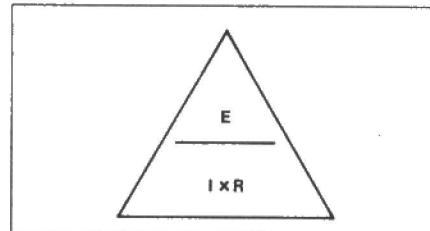

Figure 1. Ohms Law Triangle
How well and how quickly you will be able to do this will depend on your electrical knowledge and experience. So to assist you to acquire this electrical knowledge, let me briefly explain the fundamental principles underlying the units of electricity, and their application to an electrical circuit. The strength of a steady direct current of electricity flowing in a closed circuit is directly proportional to the electromotive force, and inversely proportional to the resistance of the circuit where  $I$  equals the current expressed in units of amperes (A),  $E$  equals the electromotive force expressed in units of volts (V), and  $R$  equals the resistance expressed in units of ohms ( $\Omega$ ). The above is known as Ohms Law, and states that the electromotive force divided by the current is equal to the resistance of the circuit, and is shown in a formula as  $R = E \div I$ . The current flowing in the circuit is calculated by dividing the electromotive force in volts, by the resistance in ohms, which is shown in formula as  $I = E \div R$ , and lastly, the electromotive force is found by multiplying the current in amperes by the resistance in ohms, which is expressed in a formula as  $E = I \times R$ . A simple method of remembering this formula is by drawing a triangle as shown in Figure 1, and by placing a finger over the wanted quantity, the required formula will be left. For example, to find resistance, place a finger over  $R$ , leaving  $E \div I$ . To find the current, place the finger over  $I$ , which will leave  $E \div R$ , and to find the electromotive force, place the finger over  $E$ , leaving  $I \times R$ .